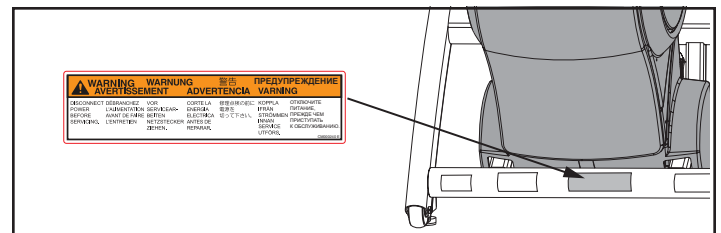

Figure 6
- A. Peel off backing and install the two warning decals as shown in Figures 6 & 7. **NOTE:** The "Disconnect Power" decal must be installed in location shown in Figure 6. The "Medical Inlet" decal must be installed in location shown in Figure 7.